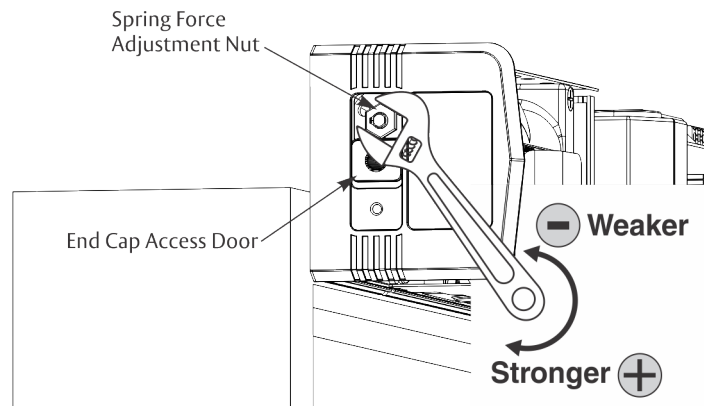

Figure 26 View of Left Hand operator
1. Using 11/16" wrench, turn nut in end of each closer body tube to desired force. (Figure 26)
NOTE: If spring adjustment nut is too close to end cap and wrench will not reach nut, remove Torx screw in end cap access door and slide door open. When finished, slide access door closed and reinsert #6 Torx flat head screw to secure door. (Figure 26)